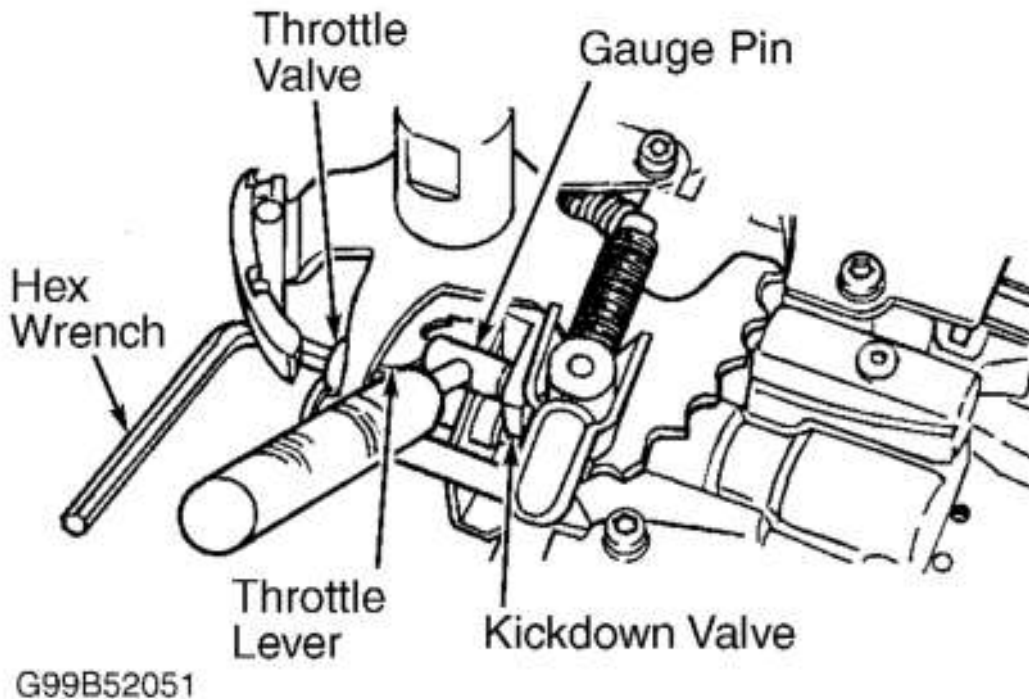

Fig. 6: Adjusting Throttle Pressure
1. Insert Gauge Pin (C-3763) between cam on throttle lever and kickdown valve. See **Fig. 6** .